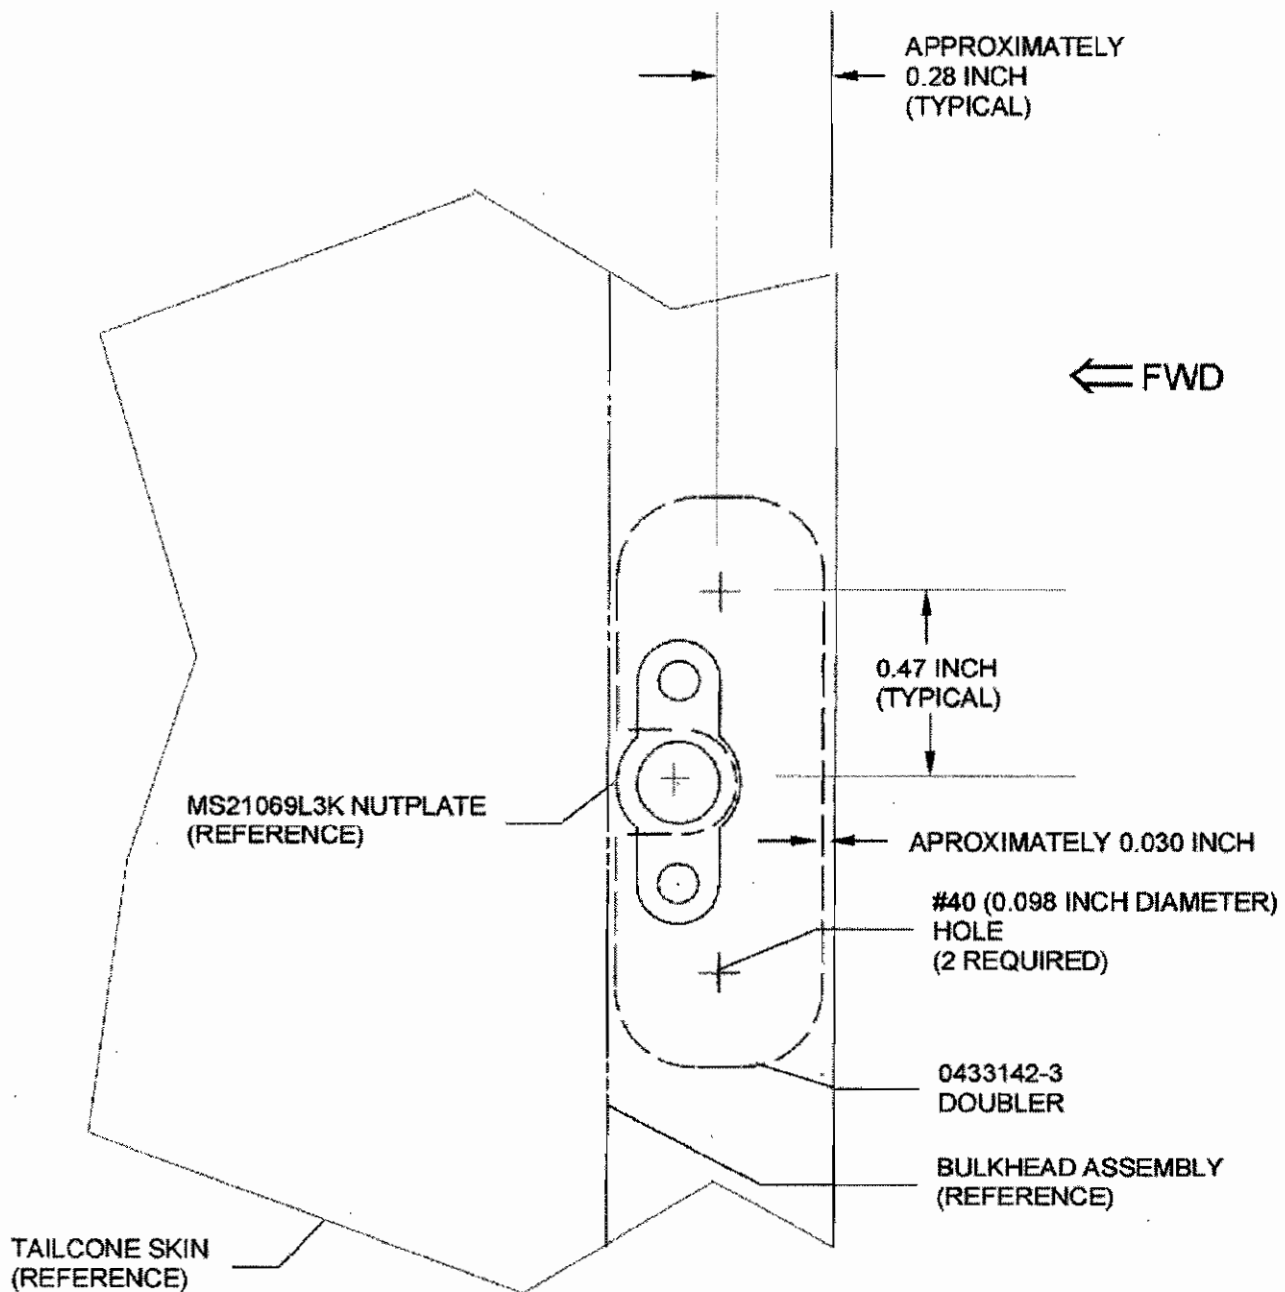

FIGURE 3.
13. (Refer to Figure 3.) Layout two additional rivet locations on tailcone skin, 0.47 inch above and below the nutplate's horizontal centerline (bolt hole) and approximately 0.28 inch forward of the tailcone skin aft edge.